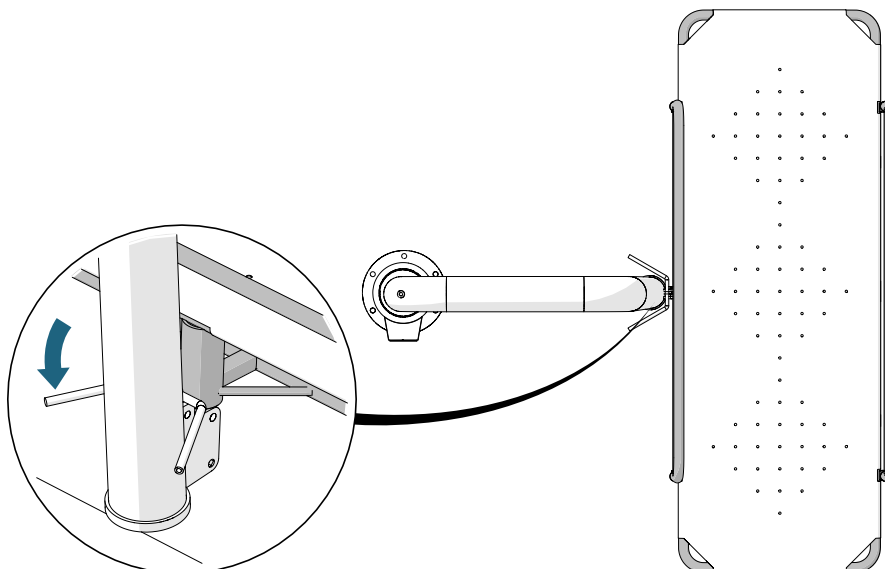

Figure 10 - Engaging the rotation lock (2)
3. When the accessory is parallel to the pool lift, the system automatically locks into place because of the weight of the accessory (see figure 10).